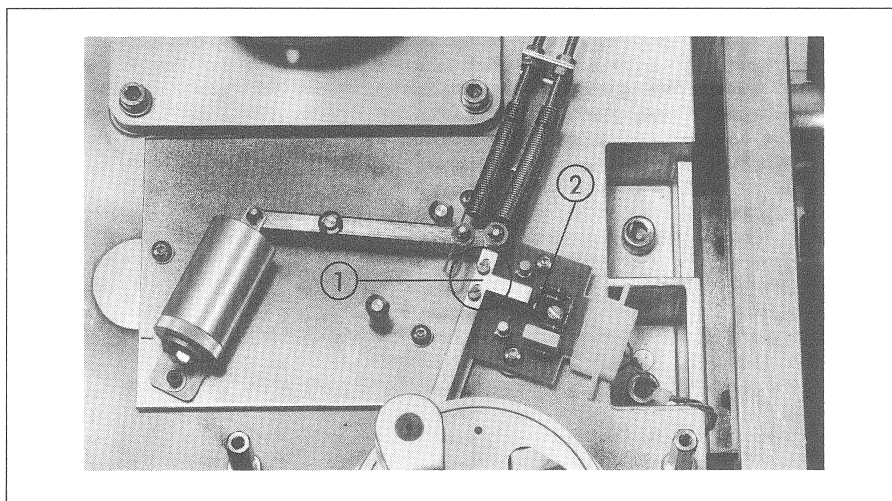

Fig. 3.6.21
This light-barrier type limit switch does not operate correctly if the ambient light is too bright. When the tape tension sensor is in its neutral position, the switch lug (1) should be plunged all the way into the light barrier (2) (see Fig. 3.6.21). Should this not be the case, adjust switch lug by loosening the mounting screws.